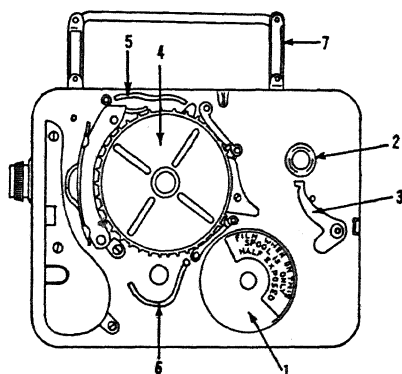

FIG. 40. OPERATION OF MOVIE CAMERA
*Film.*—Figure 40 shows a cross section of a movie camera. The film comes from the supply spool on the spindle (2), passes over